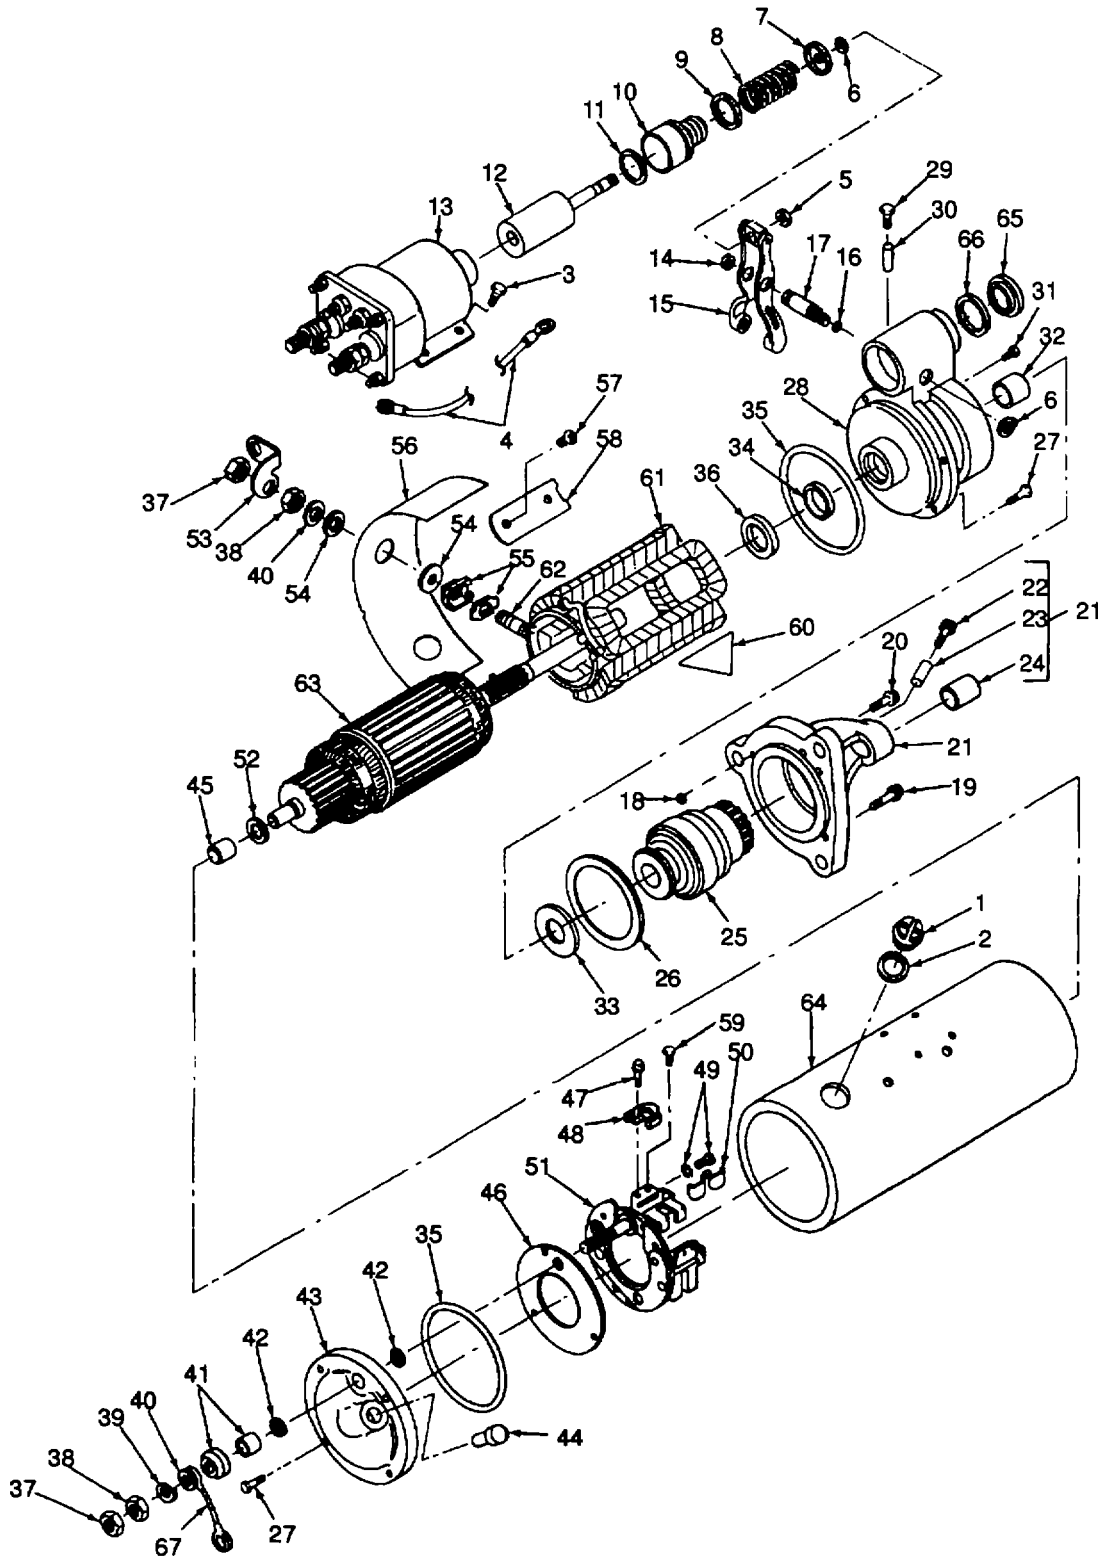

Figure 43. Starter Motors B1 and B2 and Related Parts (Sheet 1 of 2)
- (5) Remove the plain hexagon nut (37, Figure 43) and terminal lead (4). Remove ground wire (67). Remove four machine bolts (3), and slide the electrical solenoids B1 L3 or B2L4 (13) off of the plunger (12) and free of protector bellows (10).
- (6) Remove the lever housing inspection plug (65) and gasket (66) from the lever housing (28). Discard the gasket.
- (7) Remove the plunger rod nut (5), and remove the plunger (12) with attached parts (7 through 11).
- (8) Compress the plunger spring (8), remove the snap ring (6), and remove the recessed washer (7), plunger spring (8), recessed washer (9), protector bellows (10), and spring retainer washer (11) from the plunger (12). Discard snap ring (6).
- (9) Remove the snap ring (6) and push out the shift lever shaft (17). Remove and discard the preformed packings (14 and 16).
- (10) Remove the drive housing screw (19) and internal housing bolts (20) and separate the stator housing (21) from lever housing (28). Remove the protective dust cap (22), and remove and discard the oil wick (23) and gasket (26).
- (11) Slide the armature (63) half way out of the field frame (64). Tilt the shaft lever (15) and remove the shaft lever and drive assembly (25) from the lever housing (28). Remove the brake washer (33).
- (12) Remove machine bolts (27), and separate the lever housing (28) from the field frame (64). Remove the protective dust cap (29) and remove and discard the oil wick (30), preformed packing (35), and oil seal (34).
- (13) Remove the machine bolts (27) and starter housing (43). Remove protective dust cap (44) from starter housing (43).
- (14) Withdraw the armature (63) from the field frame (64) completely. Remove and discard the spacer washer (36) and flat washer (52).
- (14) Visually check the field coils (61, Figure 43) and leads for damaged insulation or oil soaking.